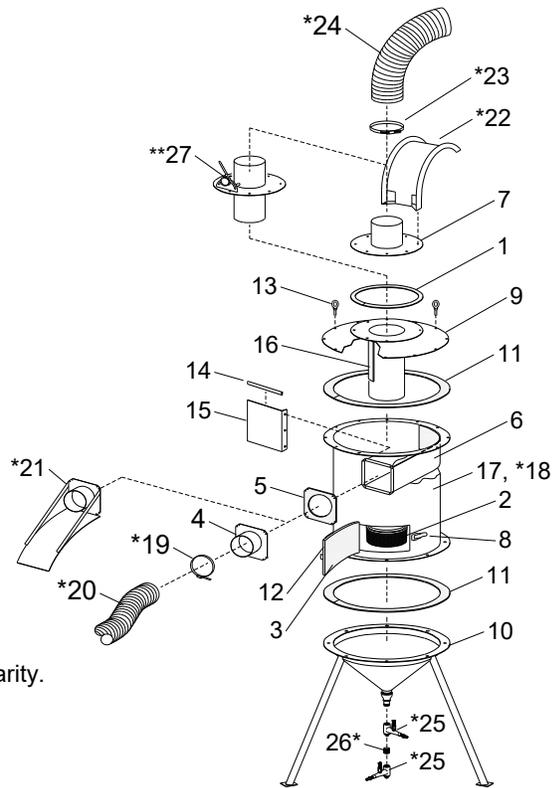

Figure 41
**9.11 900 CFM Modular Reclaimer Replacement Parts – Figure 41**
Refer to Figure 41 for 900 cfm reclaimer replacement parts.